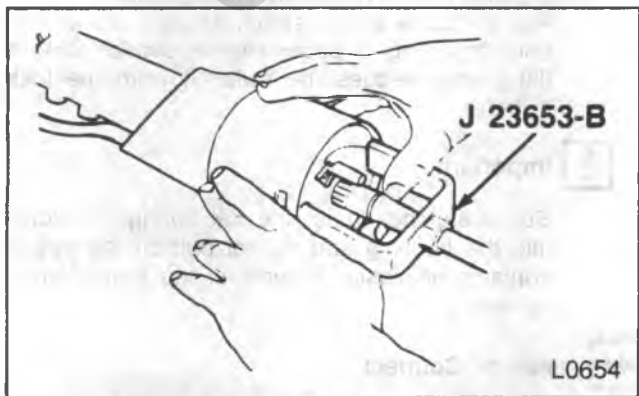

Figure 14—Installing Retaining Ring
↔ Install or Connect (Figure 14)
- Screw the center post of J-23653-B onto the steering shaft as far as it will go. Place a NEW retaining ring over the center post. Place the "C" bar over the center post and then compress the lock plate by turning the nut clockwise. Slide the new retaining ring down the tapered center post and into the shaft groove (figure 14). Remove J 23653-B.